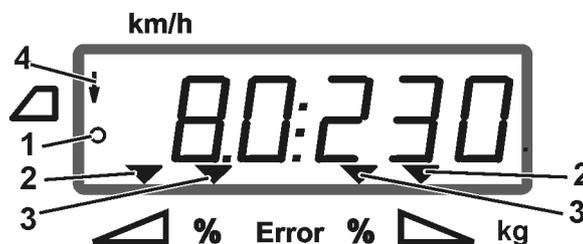

Fig. 6
- the **AMADOS⁺** is receiving the pulses for distance calculation (Fig. 6/1),
- the slide gates are open (Fig. 6/2).
- Boundary spreading is indicated by an arrow in the display (Fig. 6/4).
<ul style="list-style-type: none"> • The spread rate change in % is displayed for five seconds, then the work display reappears. • In the work display, the triangle symbols (Fig. 6/3) indicate a spread rate change.